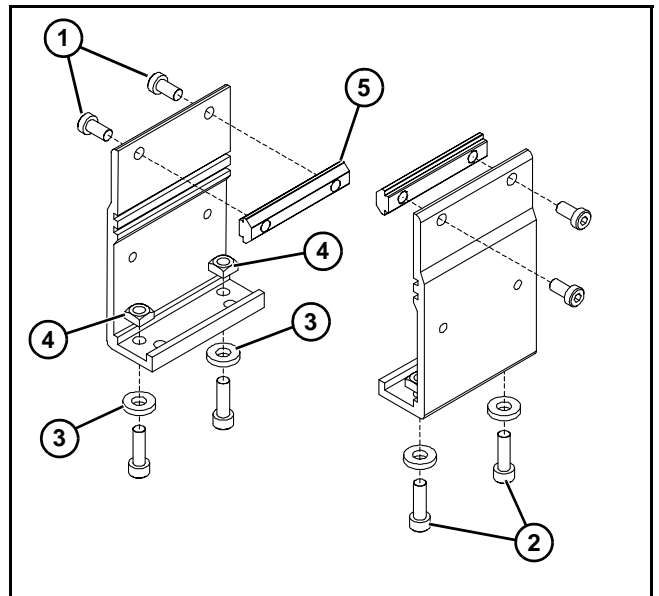
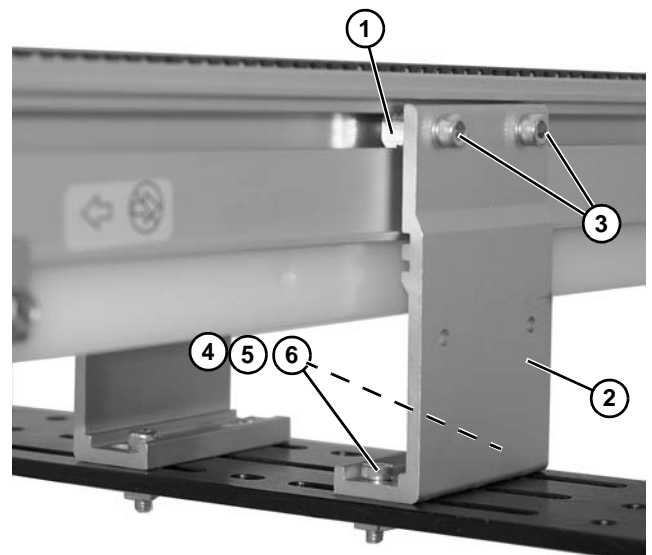

Figure 10
Figure 11
1. Locate brackets. Exploded view shown in Figure 10.
2. Remove screws (**Figure 10, item 1 & 2**), washers (**Figure 10, item 3**), nuts (**Figure 10, item 4**) and T-bars (**Figure 10, item 5**) from brackets.
3. Insert T-bars (**Figure 10, item 5**) into conveyor side slots (**Figure 11, item 1**). Fasten brackets (**Figure 11, item 2**) to conveyor with mounting screws (**Figure 11, item 3**).
4. Fasten brackets to support stand with mounting screws (Figure 11, item 4), washers (Figure 11, item 5) and nuts (Figure 11, item 6).
5. Tighten screws (Figure 11, item 3 & 4) to 7 Nm.